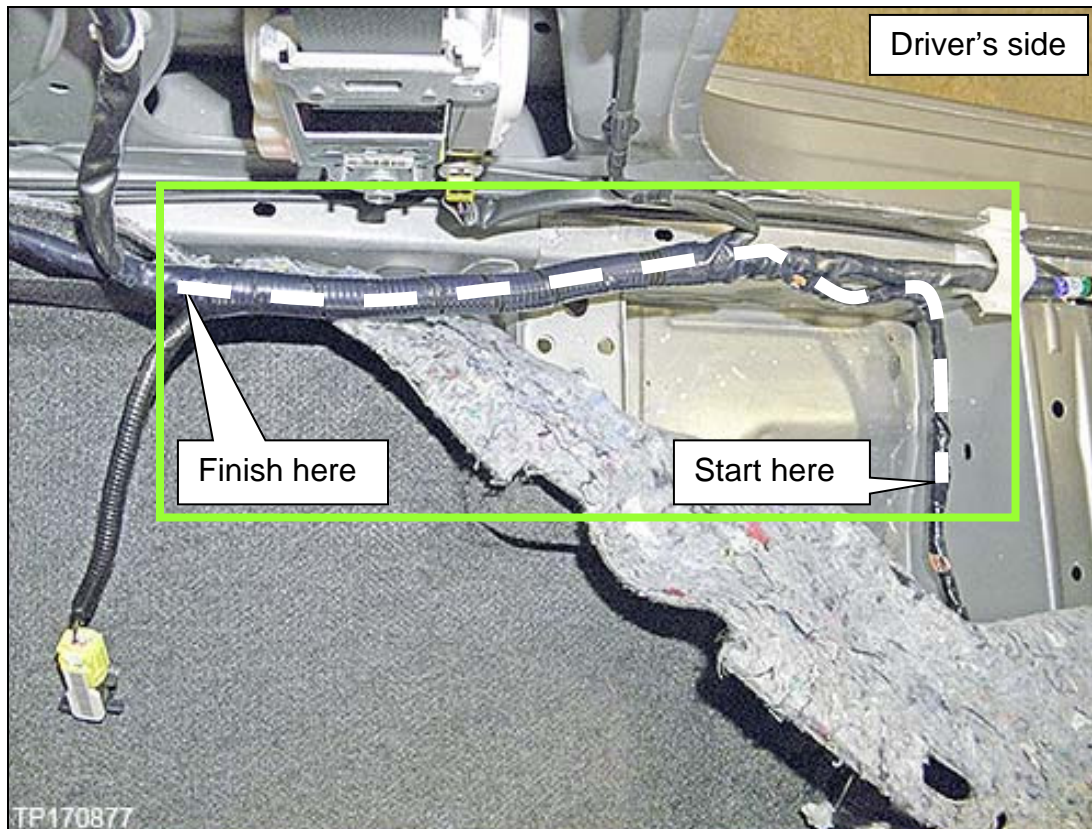

Figure 64
- Wrap the harness where shown in Figure 64 indicated by the dashed line.